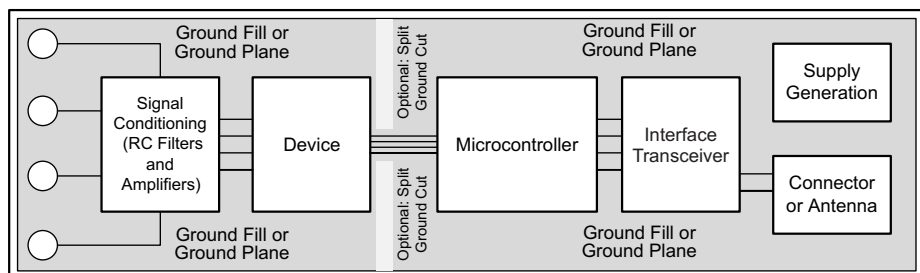

Figure 103. System Component Placement
Employing best design practices is recommended when laying out a printed-circuit board (PCB) for both analog and digital components. This recommendation generally means that the layout separates analog components [such as ADCs, amplifiers, references, digital-to-analog converters (DACs), and analog MUXs] from digital components [such as microcontrollers, complex programmable logic devices (CPLDs), field-programmable gate arrays (FPGAs), radio frequency (RF) transceivers, universal serial bus (USB) transceivers, and switching regulators]. Figure 103 shows an example of good component placement. Although Figure 103 provides a good example of component placement, the best placement for each application is unique to the geometries, components, and PCB fabrication capabilities employed. That is, there is no single layout that is perfect for every design and careful consideration must always be used when designing with any analog component.